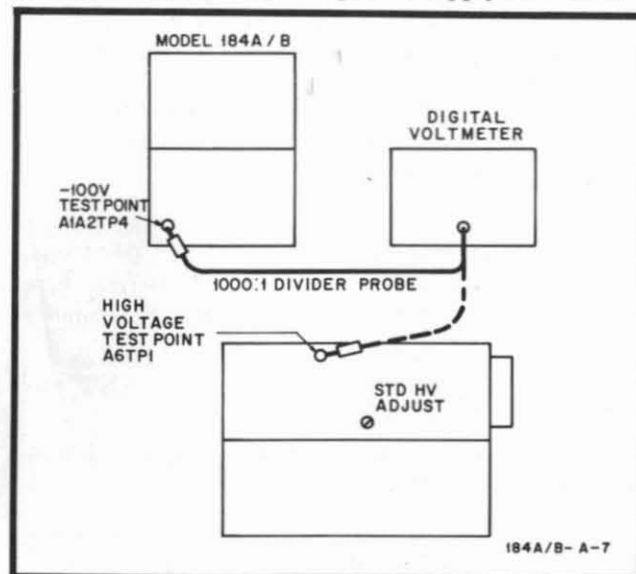

Figure 5-6. High Voltage Adjustment
a. Using 1000:1 divider probe, monitor voltage at -100V test point A1A2TP4 with digital voltmeter (figure 5-6).
d. Using 1000:1 divider probe, monitor high voltage at A6TP1 with digital voltmeter (figure 5-6).